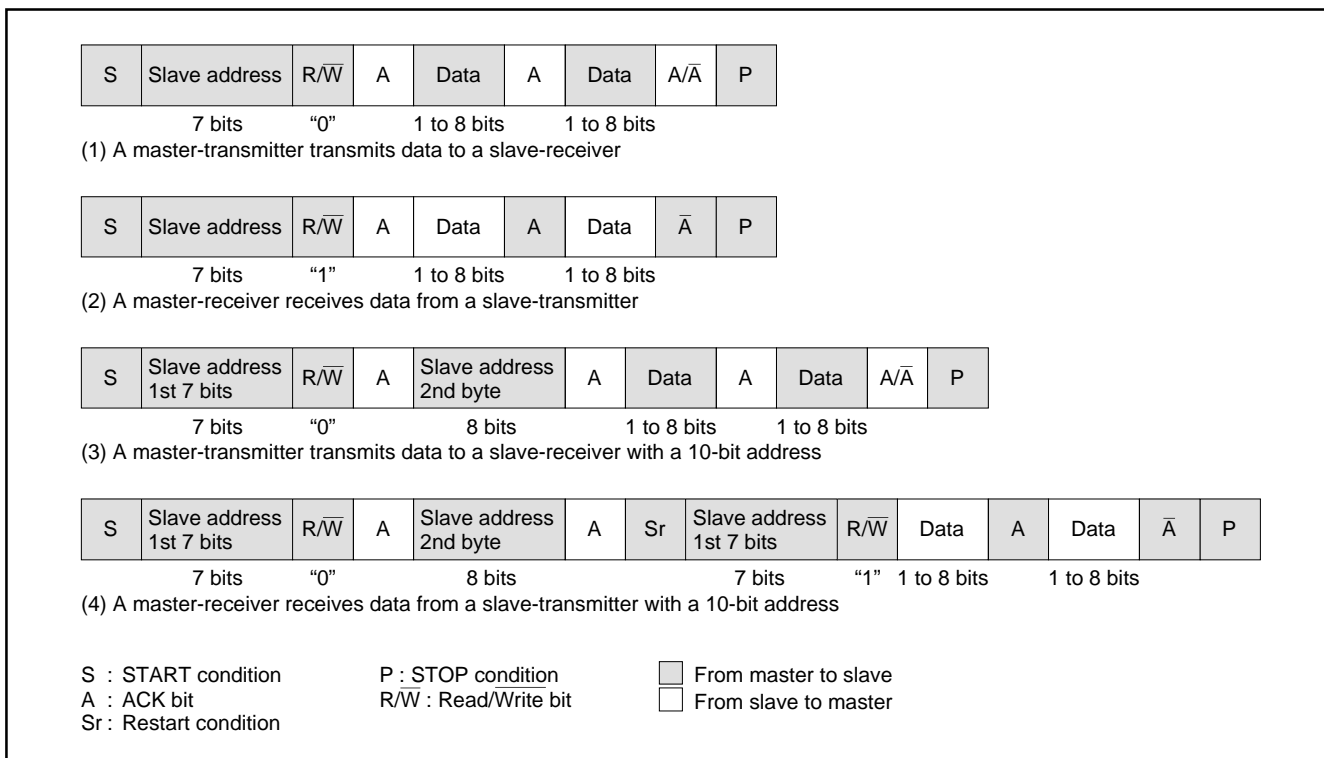

Fig. 34. Address Data Communication Format
To meet the 7-bit addressing format, set the 10BIT SAD bit of the I2C control register (address 00DC16) to "0." The first 7-bit address data transmitted from the master is compared with the high-order 7-bit slave address stored in the I2C address register (address 00DA16). At the time of this comparison, address comparison of the RBW bit of the I2C address register (address 00DA16) is not made. For the data transmission format when the 7-bit addressing format is selected, refer to Figure 34, (1) and (2).
When the first-byte address data matches the slave address, the AAS bit of the I2C status register (address 00DB16) is set to "1." After the second-byte address data is stored into the I2C data shift register (address 00D916), make an address comparison between the second-byte data and the slave address by software. When the address data of the 2nd bytes matches the slave address, set the RBW bit of the I2C address register (address 00DA16) to "1" by software. This processing can match the 7-bit slave address and R/W data, which are received after a RESTART condition is detected, with the value of the I2C address register (address 00DA16). For the data transmission format when the 10-bit addressing format is selected, refer to Figure 34, (3) and (4).